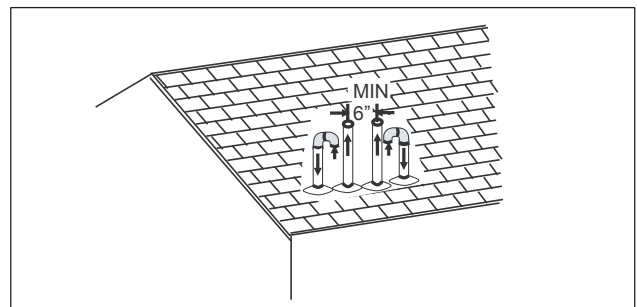

Fig 24: Double Vertical Combustion Air Intake and Vent Termination
- 3. VENTILATED COMBUSTION AIR:** Combustion air is supplied through a PVC or ABS pipe that is connected to the PVC coupling attached to the burner box and is terminated in a ventilated attic or crawl space. The combustion air and the vent pipes are not terminated in the same atmospheric zone. Refer to Figure 24 for attic and crawl space termination. Only the combustion air intake may terminate in the attic. The vent must terminate outside.